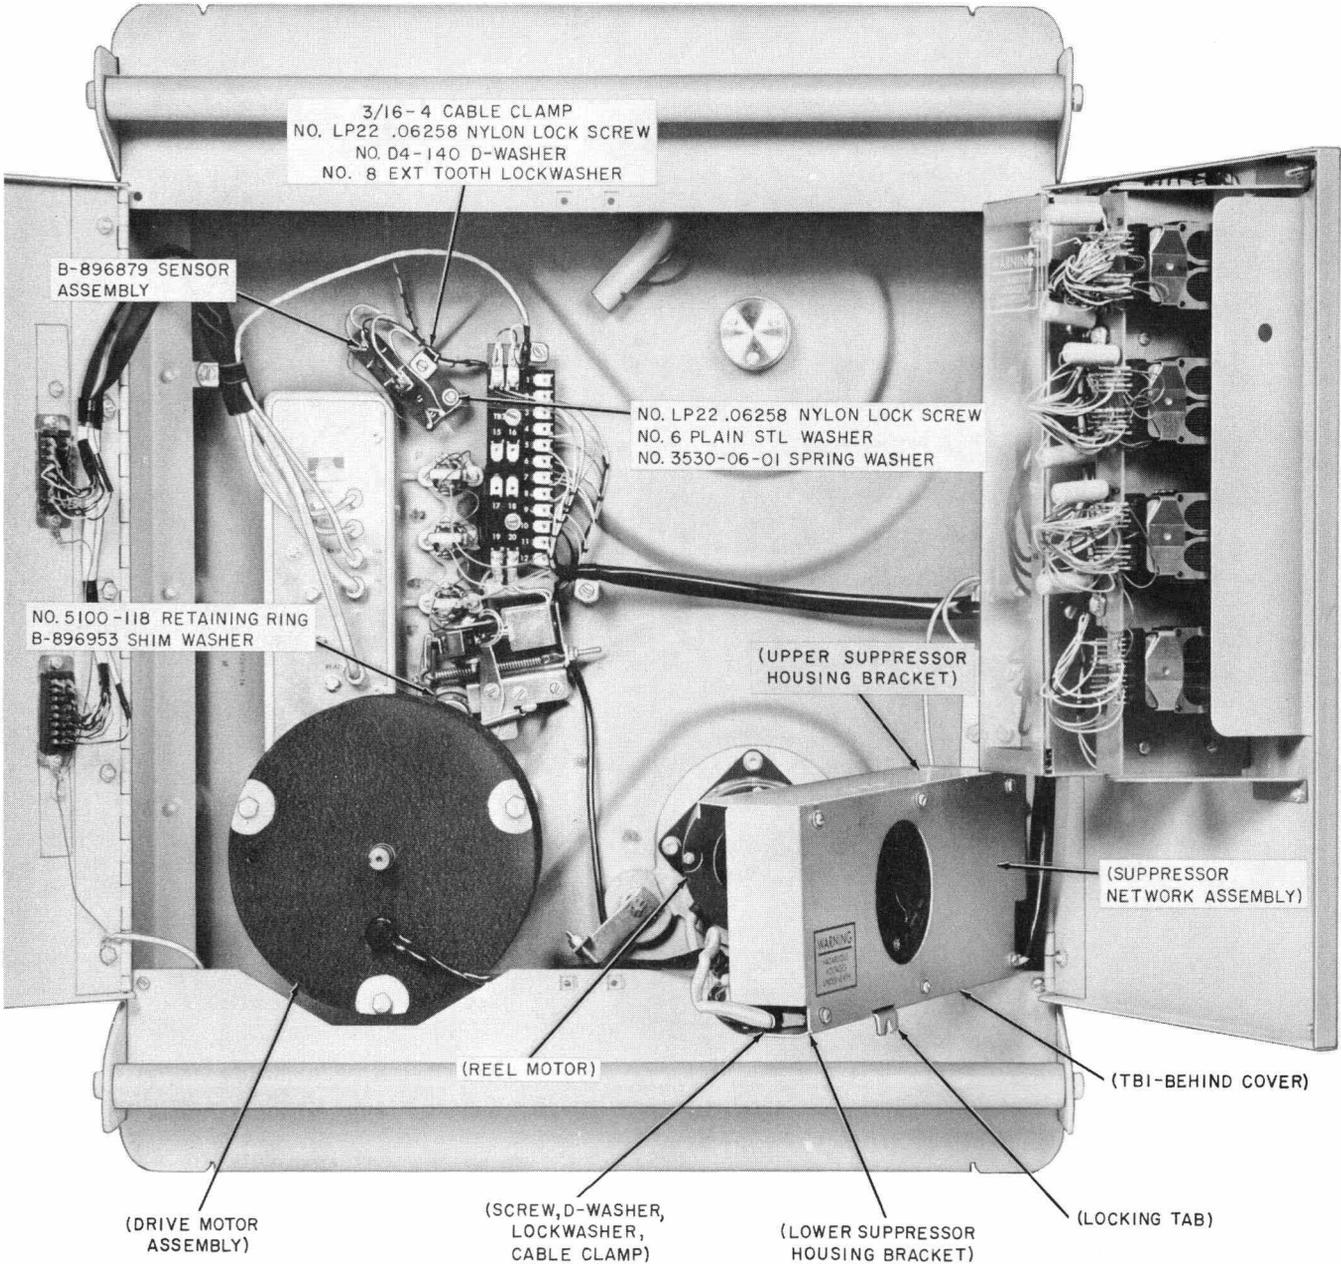
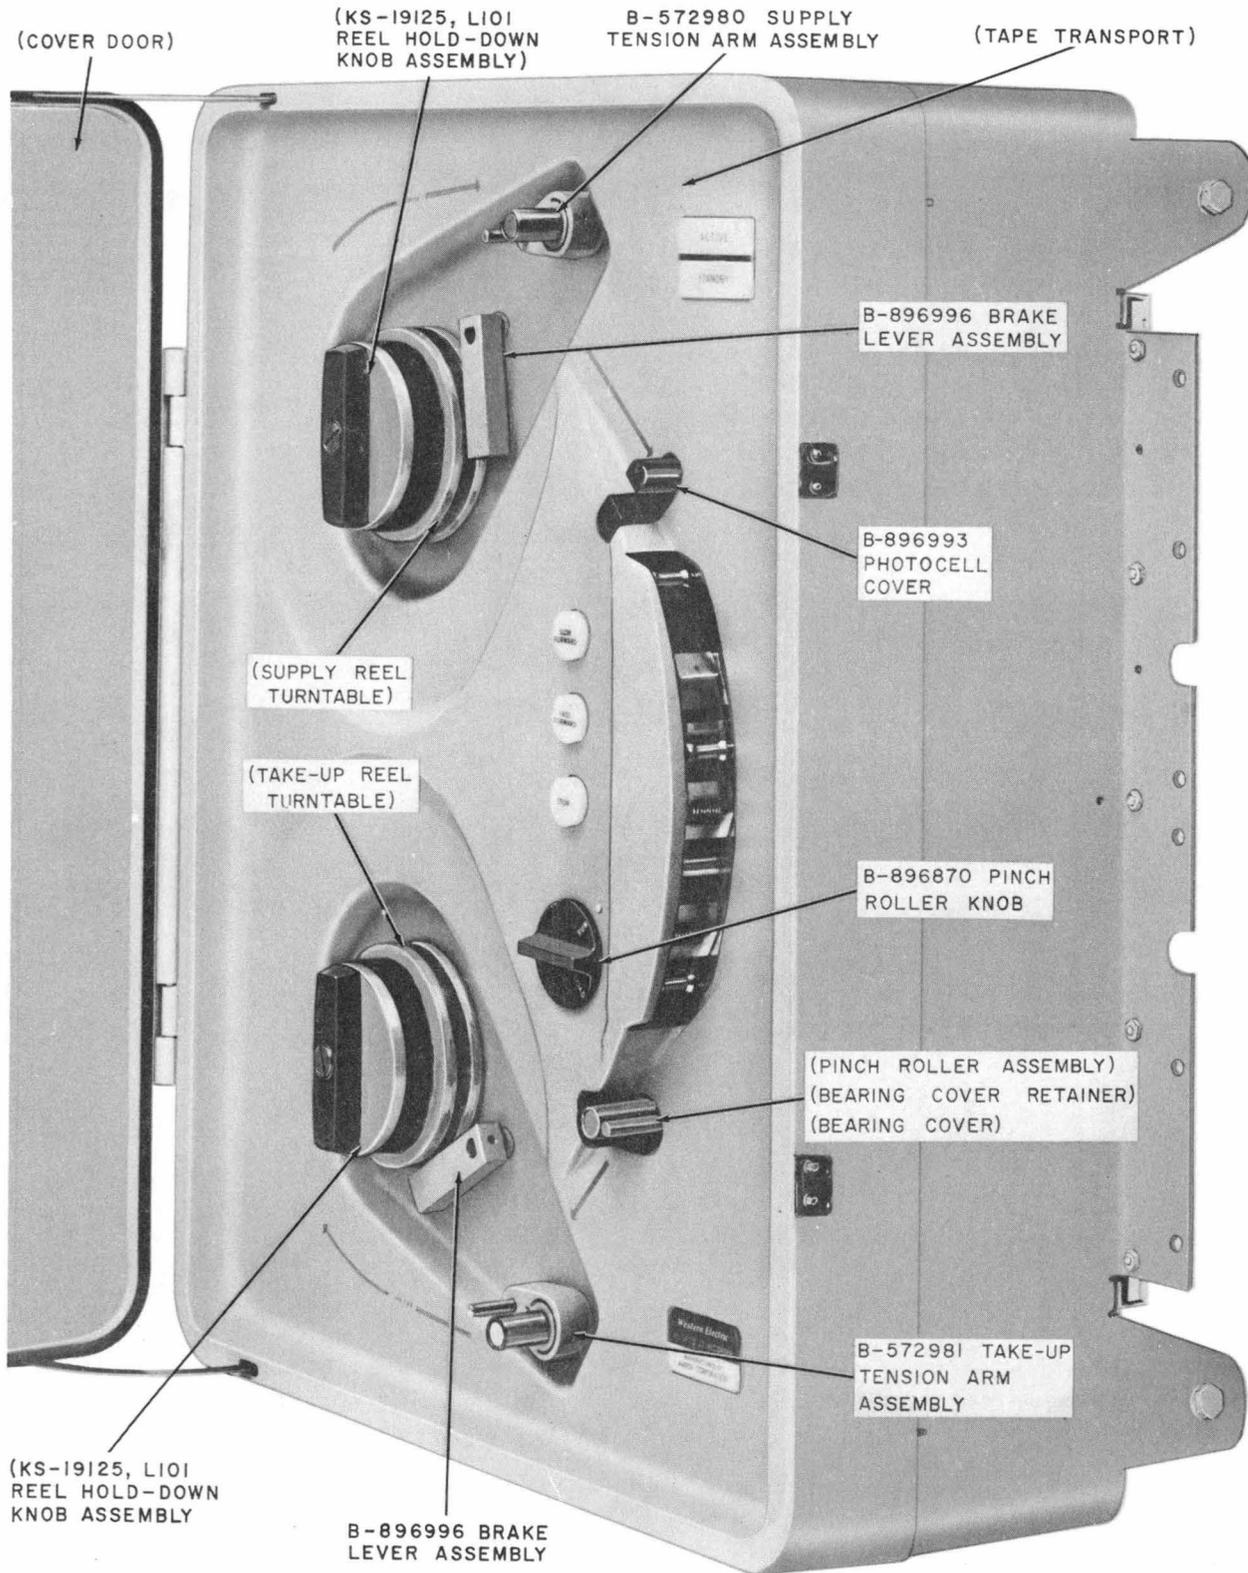
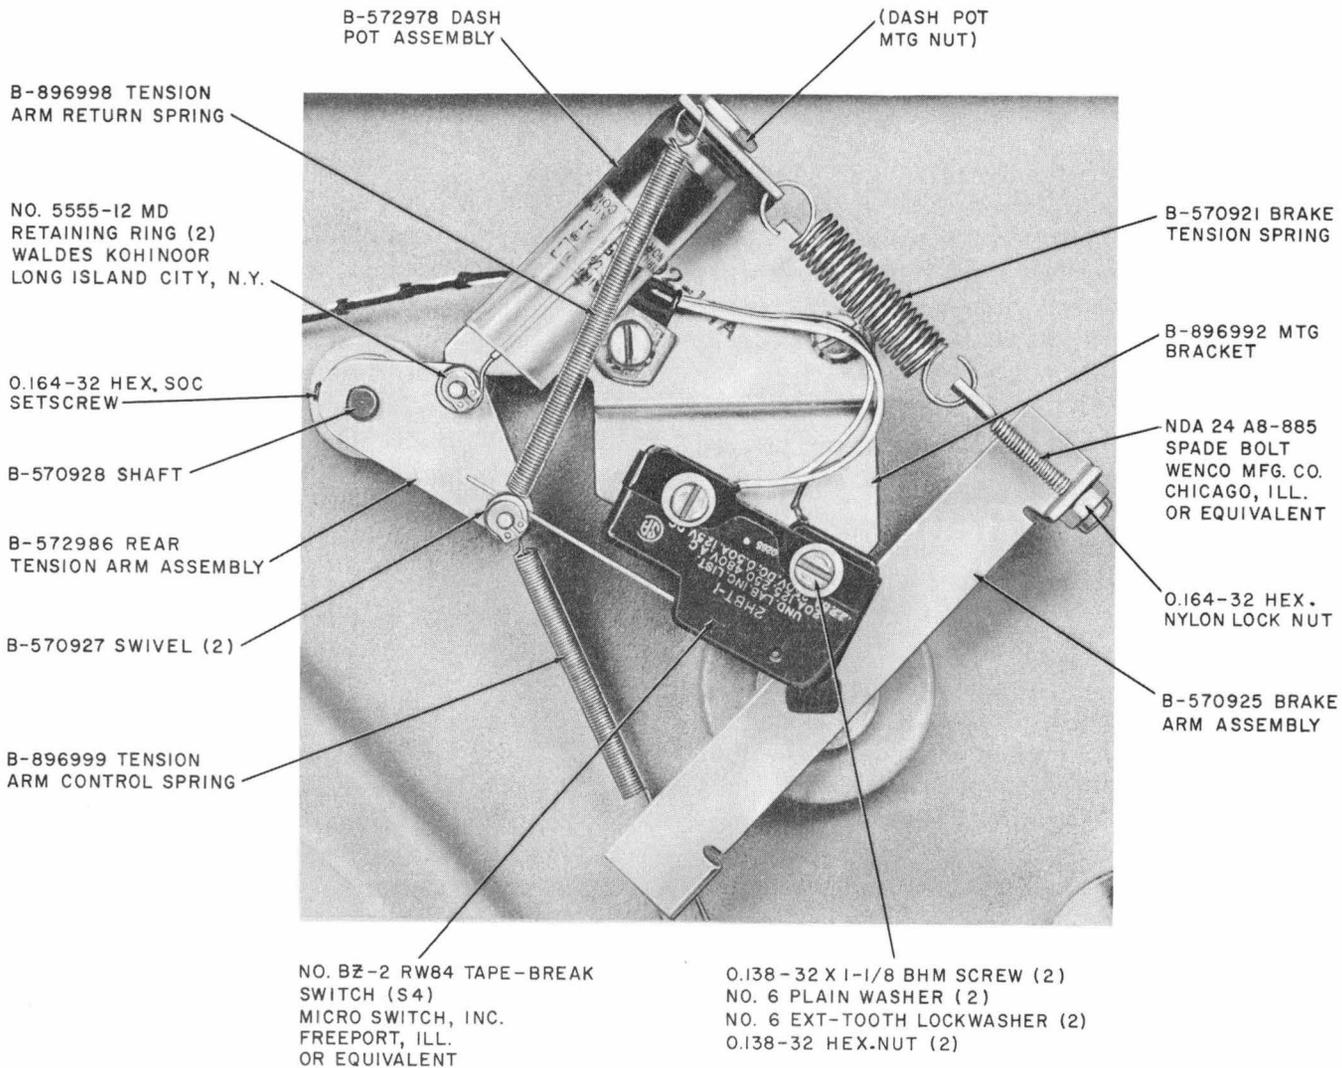
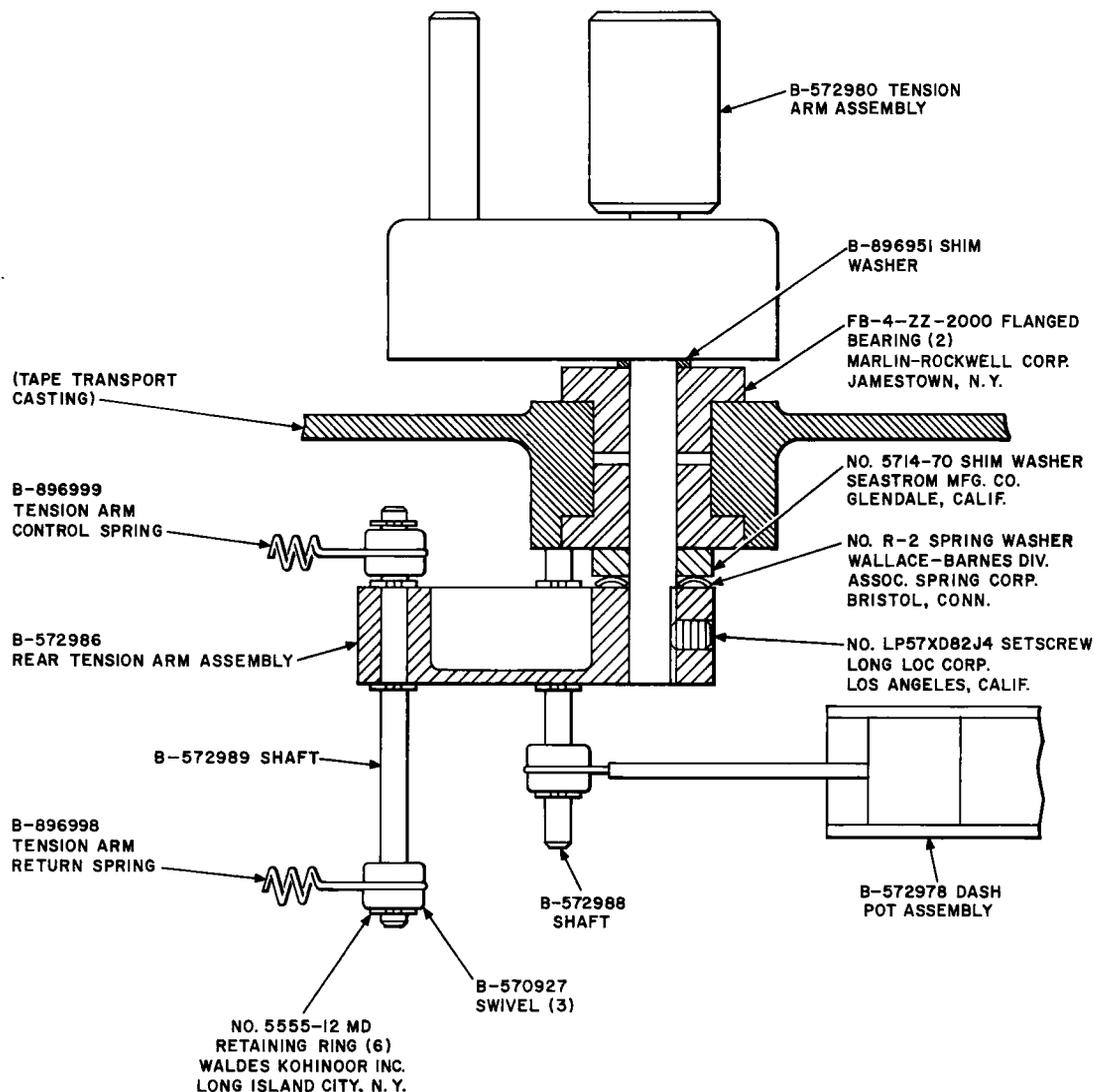

Fig. 6 — KS-19125, List 2 Recorder Assembly — Rear Internal View
Fig. 11 — KS-19125, List 2 Recorder Assembly — Front View
Fig. 15 — Supply Reel Brake and Tension Arm Assembly — KS-19125, List 2 Recorder
Fig. 19 — Sectional View of Supply Tension Arm and Associated Parts — KS-19125, List 2 Recorder
(1) To remove supply reel brake assembly, unhook tension arm control spring (Fig. 15) from brake arm assembly. Using the 3/8-inch open-end wrench, remove hex. locknut, spade bolt, and brake tension spring from brake arm assembly. Using the 1/16-inch Allen wrench, loosen setscrew in the end of brake lever assembly (Fig. 11 and 16); and remove brake lever and shim washer.
(2) To gain access to take-up reel brake assembly, use the 4-inch E screwdriver to remove screw holding the locking tab (Fig. 4); and swing suppressor network assembly out as shown in Fig. 6. Using the 3/8-inch open-end wrench, remove hex. locknut, spade bolt, and brake tension spring (Fig. 17) from brake arm assembly. Using the 1/16-inch Allen wrench, loosen setscrew in end of brake lever assembly (Fig. 11 and 16); and remove brake lever and shim washer. From the rear, slide brake arm assembly out of brake shaft bushing; and remove spring washer and shim washer.
(3) Before installing reel brake assembly, clean the shaft with a clean KS-2423 twill cloth.
(5) For the supply reel brake assembly, hook loose end of tension arm control spring (Fig. 15) to brake arm assembly. Assemble brake tension spring and spade bolt to brake arm assembly and secure with hex. locknut using the 3/8-inch open-end wrench. Adjust brake pressure as described in Section 034-356-701.
(1) To remove supply tension arm assembly (Fig. 11), use the R-2975 snap-ring pliers to remove outermost retaining ring (Fig. 19); and slide swivel of supply tension arm return
spring from shaft. Using the R-2975 snapping pliers, remove retaining ring from shaft holding dash pot swivel. Using the 1/2-inch open-end wrench, loosen mounting nut of dash pot (Fig. 15); and remove dash pot from dash pot mounting bracket. With dash pot free, slide dash pot swivel from shaft. Unhook the tension arm control spring from supply brake arm assembly. Using the 1/16-inch Allen wrench, loosen setscrew located in the end of rear tension arm assembly (Fig. 19); and slide rear tension arm assembly, spring washer, and shim washer from the shaft.
Remove supply tension arm assembly (Fig. 11) from the front of tape transport. Remove shim washer from shaft of supply tension arm assembly.
(2) Before installing supply tension arm assembly, clean the shaft with a clean KS-2423 twill cloth.
(3) To replace supply tension arm assembly (Fig. 11), install shim washer on shaft (Fig. 19) and insert shaft of supply tension arm assembly through flanged bearings. Install shim washer, spring washer, and rear tension arm assembly onto shaft of supply tension arm assembly. Using the 1/16 Allen wrench, tighten setscrew in the end of rear tension arm assembly while applying 1/2 to 2 pound preload pressure against the flanged bearings. Check the shaft for longitudinal play and observe that spring washer is not completely compressed.
If this has occurred, remove rear tension arm; replace spring washer with a new one; reinstall rear tension arm; and recheck shaft for play. Hook the loose end of tension arm control spring in the hole provided in brake arm assembly (Fig. 15). Install the dash pot on the dash pot mounting bracket using the 1/2-inch open-end wrench to lighten mounting nut. Slide dash pot swivel on the (short) shaft (Fig. 19); and using the R-2975 snap-ring pliers, install retaining ring 1/4-inch from end of shaft. Install tension arm return spring swivel on the (long) shaft; and using the R-2975 snap-ring pliers, install retaining ring 1/16-inch from end of shaft.
(4) Adjust supply spring tension as described in Section 034-356-701.
(5) To replace tape-break switch S4 (Fig. 15), remove soldered leads and use the 4-inch E screwdriver to remove the two screws, plain washers, external tooth lockwashers, and hex. nuts holding switch on mounting bracket. Position new switch as